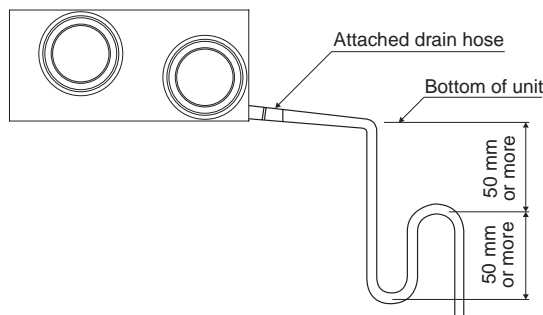

Fig. 7-1
- In case of the direct duct connection system, there is negative pressure inside the unit relative to atmospheric pressure when the unit is running, so be sure to provide drain trap on the drain outlet. (See Fig. 7-1)